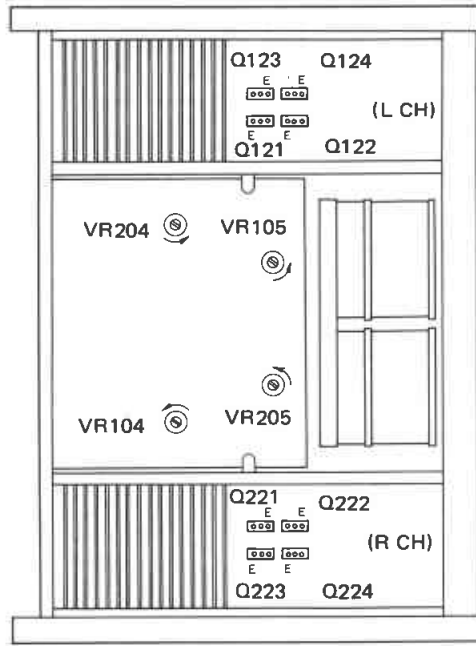

Fig. 5
2. Turn VR104 and VR105 (left channel) and VR204 and VR205 (right channel) full around in the directions opposite to that shown by the arrows in Fig. 5.